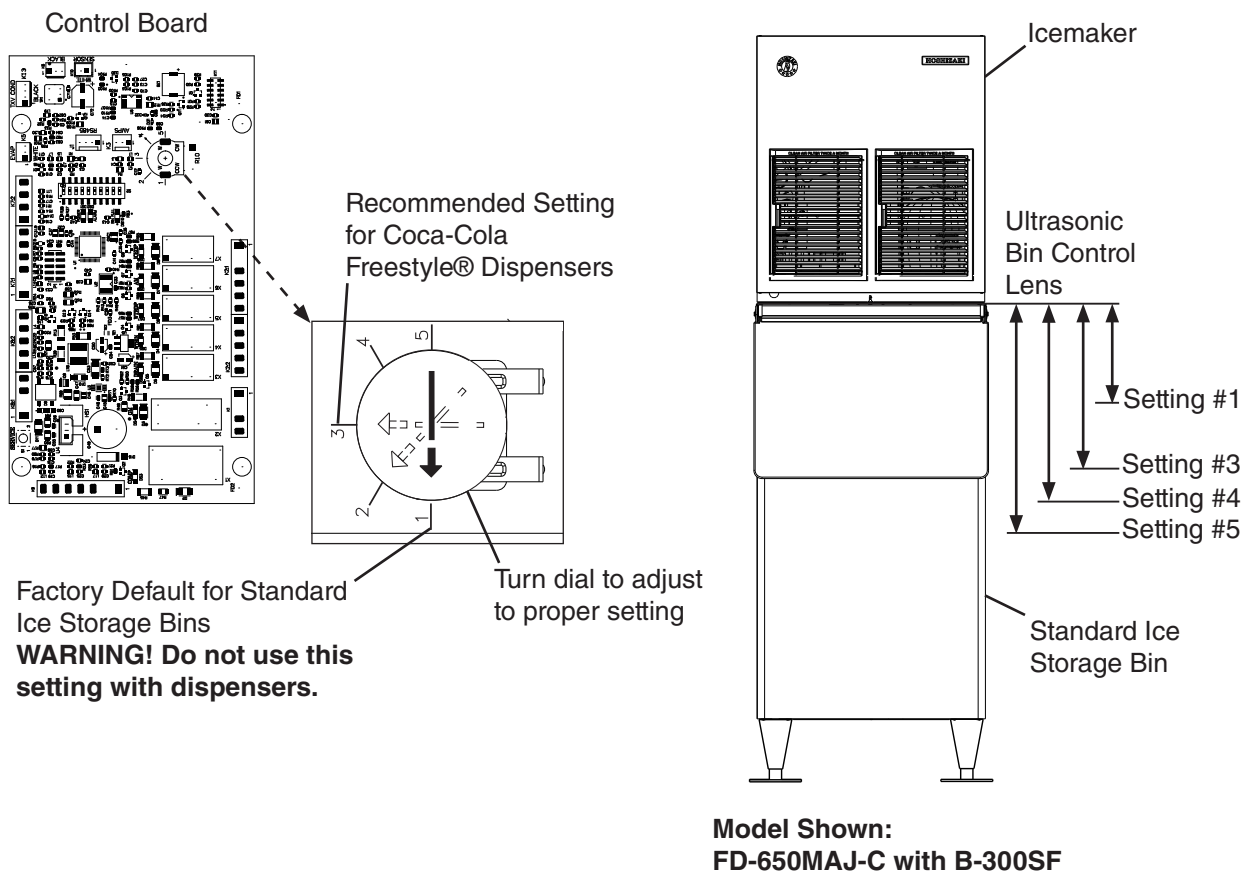

Fig. 8
- 2) Confirm the correct control board bin control setting required for your application and adjust according to the following tables. See Fig. 8 and Fig. 9.